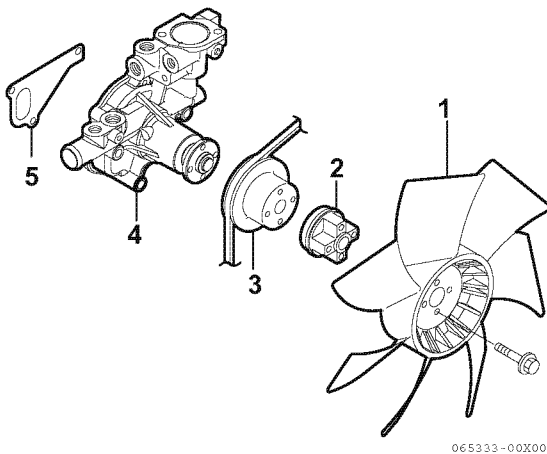
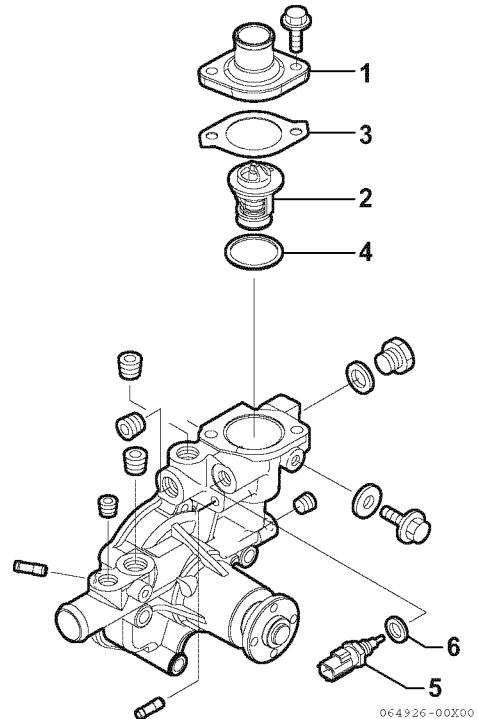

Figure 8-6
Figure 8-7
6. Remove the engine coolant fan guard (if equipped), engine coolant fan (1, **Figure 8-6**), spacer (2, **Figure 8-6**) and engine coolant pump V-pulley (3, **Figure 8-6**).
8. Remove the engine coolant pump (4, **Figure 8-7**). Discard the packing (5, **Figure 8-6**).
1. Remove the thermostat cover (1, **Figure 8-7**). Discard the thermostat cover gasket (3, **Figure 8-7**).
2. Remove the thermostat (2, **Figure 8-7**). Discard the thermostat gasket (4, **Figure 8-7**). Remove the engine coolant temperature sensor (5, **Figure 8-7**) and the seal washer (6, **Figure 8-7**). Discard the seal washer.